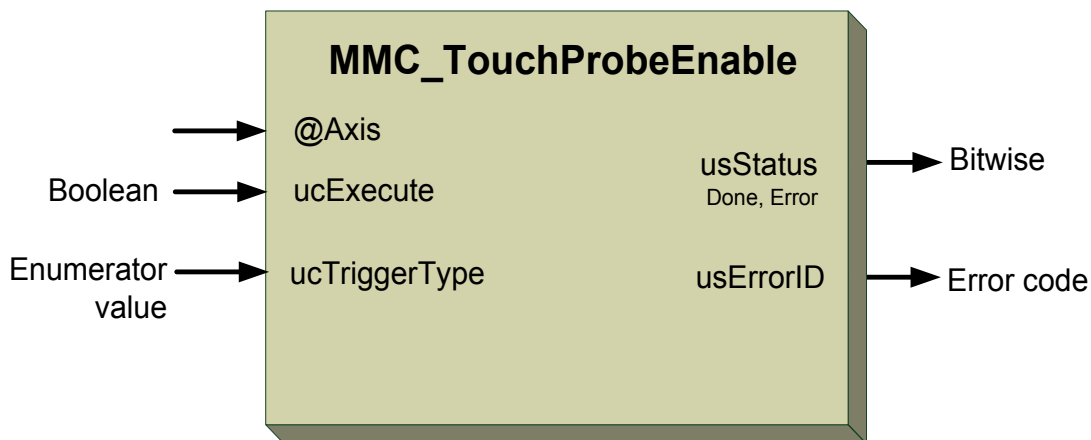

Figure 5-75: MMC\_TouchProbeEnable function block
**Figure 5-75** describes the function block for MMC\_TouchProbeEnable as applied within the IEC 61131 programming.